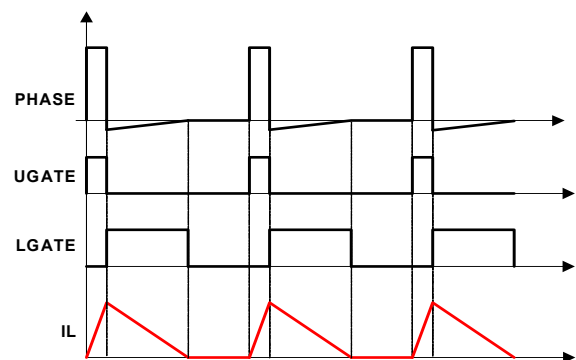

Figure 27. Diode Emulation
The R3 modulator can operate in Diode Emulation (DE) mode to increase light-load efficiency. For example, in Buck DE mode the low-side MOSFET conducts when the current is flowing from source-to-drain and does not allow reverse current, emulating a diode. As shown in Figure 27, when  $LGATE$  is on, the low-side MOSFET carries current, which creates negative voltage on the phase node due to the voltage drop across the ON-resistance. The IC monitors the current by monitoring the phase node voltage. It turns off  $LGATE$  when the
If the load current is light enough, as Figure 27 shows, the inductor current reaches and stays at zero before the next phase node pulse. At this stage, the regulator is in Discontinuous Conduction Mode (DCM). If the load current is heavy enough, the inductor current never reaches 0A and the regulator is in CCM, although the controller is in DE mode.